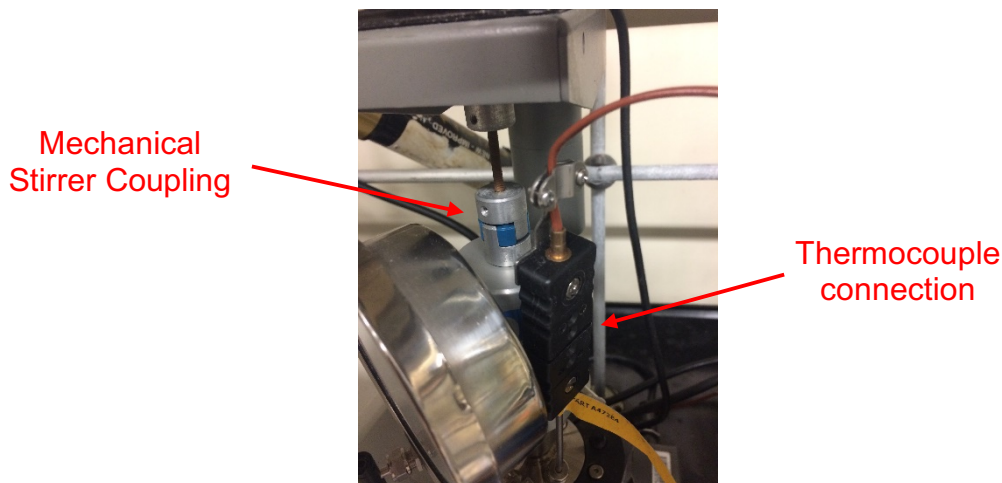

Figure 5. Close-up of the mechanical stirrer and thermocouple connections.
8. Put the motor in place with the magnetic mechanical stirrer, and connect the thermocouple and extension wire (Figure 5).